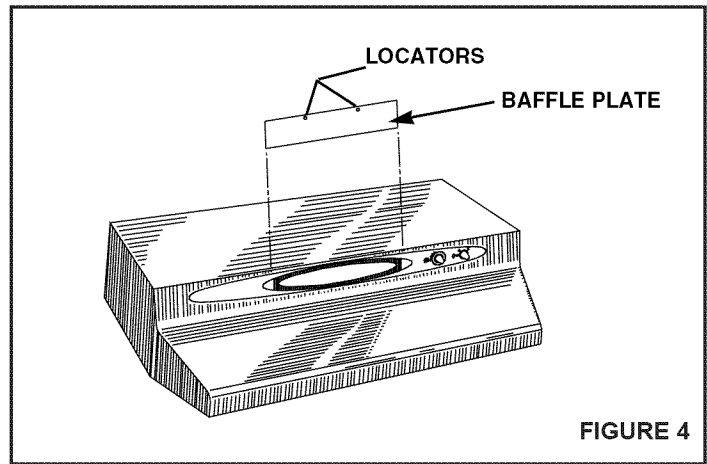

FIGURE 4
- If the range hood is to be installed as a ducted unit,** a baffle plate is provided to close off the non-ducted vent. Install baffle plate (**Refer to FIGURE 4**) by sliding into place behind grille. Use locator bumps to orient in grille.